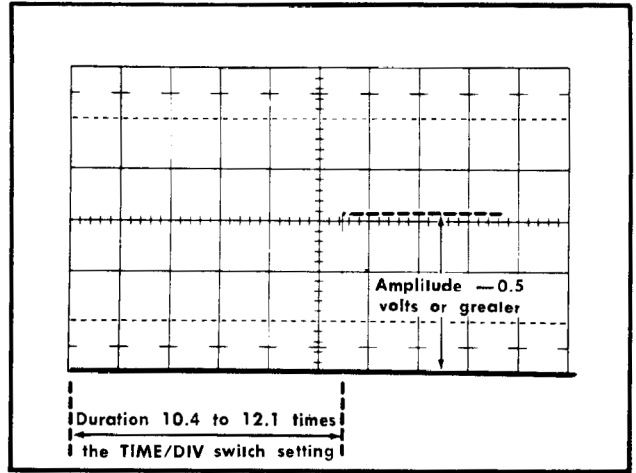

Fig. 5-21. Typical test oscilloscope display when checking the gate output signal. Vertical deflection, 0.2 volts/division; sweep rate, 2 milliseconds/division.
d. CHECK—Test oscilloscope display for 2.5 divisions or greater amplitude with the top of the waveform at the zero volt level. Gate duration should be 5.2 to 6.05 divisions (−0.5 volt or greater amplitude with duration of 10.4 to 12.1 times the TIME/DIV switch setting; see Fig. 5-21).